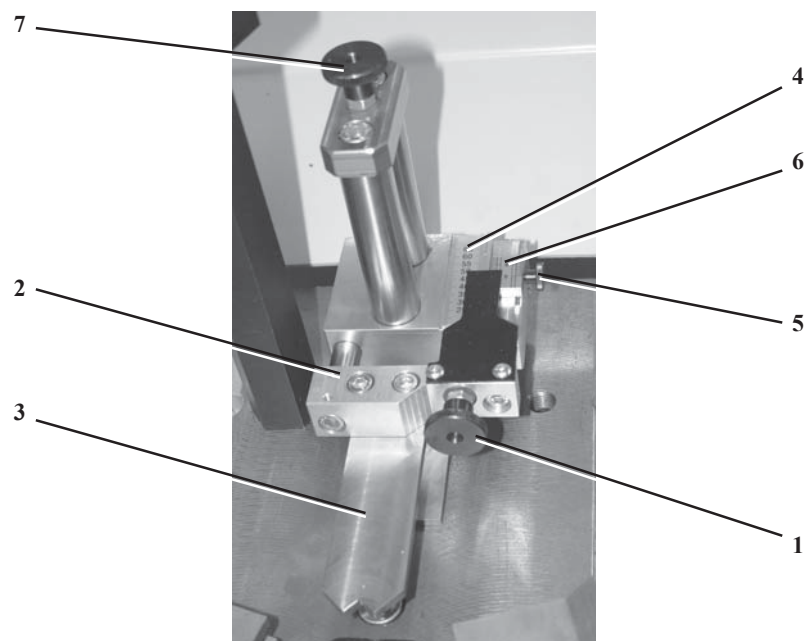

Fig. 5.8
- Swing the ring nut (1, fig. 5.8) to move the holder (2) of reference forks (3) till you read on the graduated scale (4) the measure that represents the distance («d», fig. 5.7) in mm from the crimping point on the corner.
- Once the measure adjusted, loose the washer (5), then move the block (6) with the small graduated scale till zero on this scale (6) corresponds with the adjusted value; then lock the washer (5).
- Swing again the ring nut (1) till you read on the scale of sliding block the adjustment value calculated as follows: